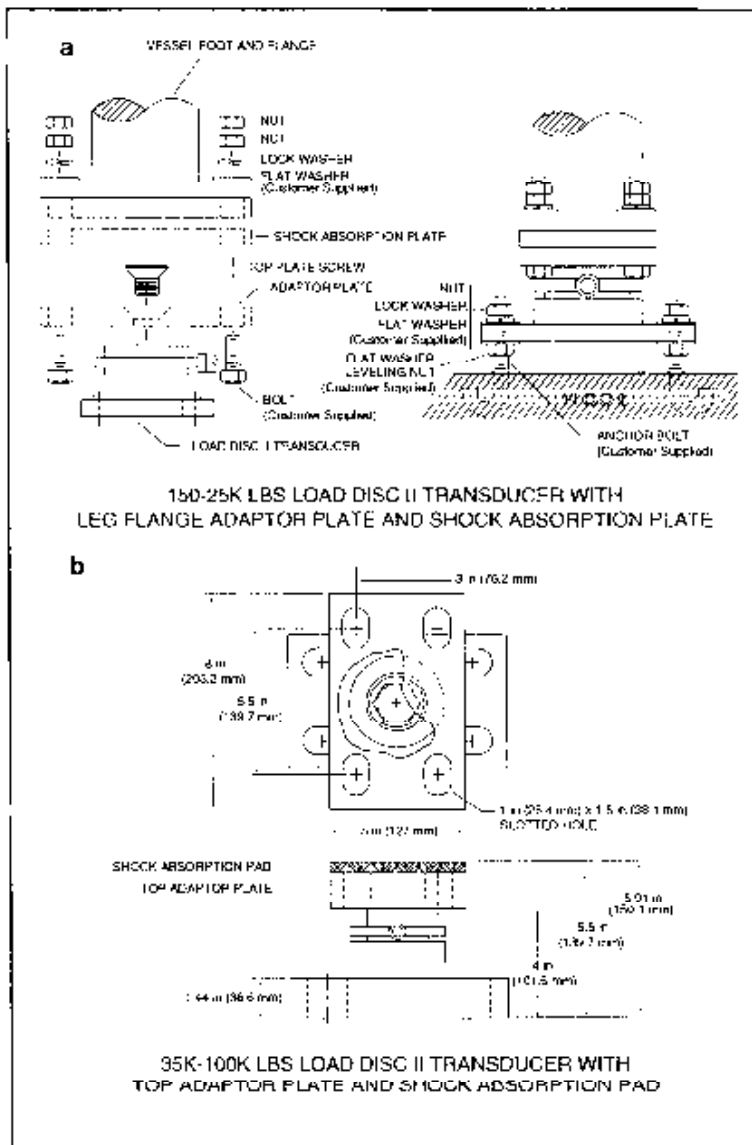

Figure 2-5. Load Disc II Transducer and Leg Flange Adaptor Hardware Kits
This Load Disc II transducer configuration has a hardware kit that consists of a leg flange adaptor plate, a shock absorption pad, and a top screw to secure it to the transducer. The adaptor plate bolts to a vessel gusset (Figure 2-5) or a vessel leg that has a flat plate welded to it. The customer must supply the hardware to secure the adaptor plate to the leg or gusset. Follow this procedure to install the Load Disc II transducer.
6. With the shock absorption pad between the transducer top adaptor plate and the vessel leg or gusset, bolt the Load Disc II transducer assembly to the leg (or gusset) using 3/8"-24 UNF\*, 7/16"-20 UNF\*\*, or 3/4"-10 UNC\*\*\* bolts (ASTM-A325 or stronger), lock washers, flat washers, and nuts. Orient the bolts so that the heads face down and the nuts and washers are on top (Figure 2-5). Follow Steps 1 through 6 to install all of the transducers to the vessel legs or gussets.
Kistler-Morse recommends using 3/8"-24 UNF\*, 7/16"-20 UNF\*\*, or 3/4"-10 UNC\*\*\* anchor bolts that are grade ASTM-A325 or stronger. The threaded length of the anchor bolts should provide enough length for the thickness of the base plate, the thickness of the leveling nut and flat washer under the base plate, and the thickness of the lock washer, flat washer, and nut on top of the base plate (Figure 2-5).